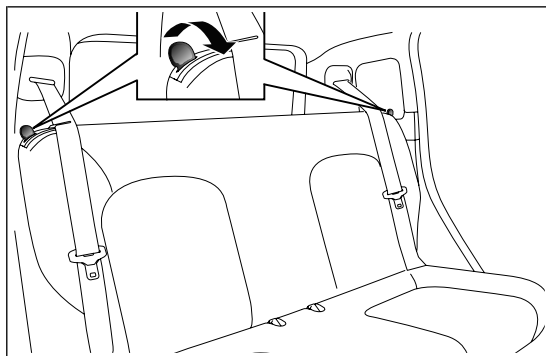

fig. 57
- ☐ operate the levers at the sides of the rear seats fig. 57 pushing them towards the inside of the car, fold the backrest and then bring the backrest onto the cushion.